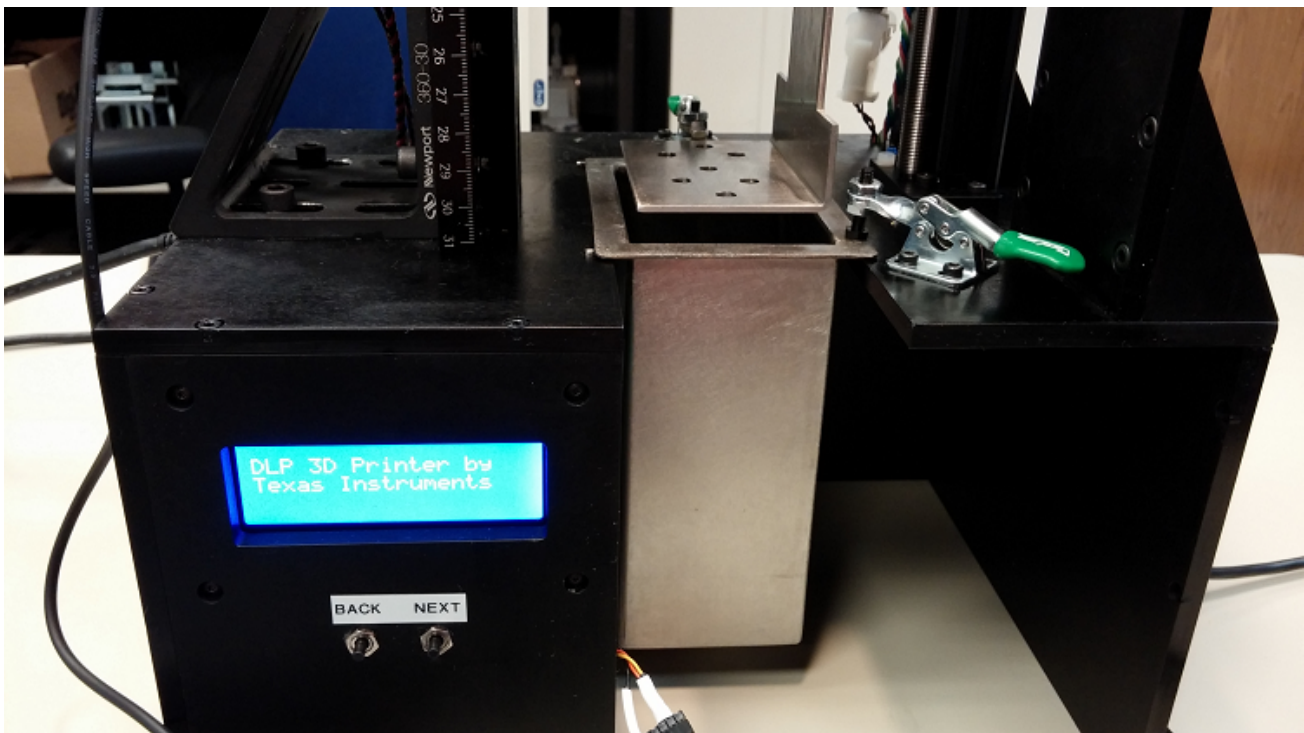

Figure 3-15. DLP 3D Printer Initialized And Waiting
9. Once the build platform has completed its travel -- and is located above the vat -- the LCD will display the printer's name, as shown in Figure 3-15.